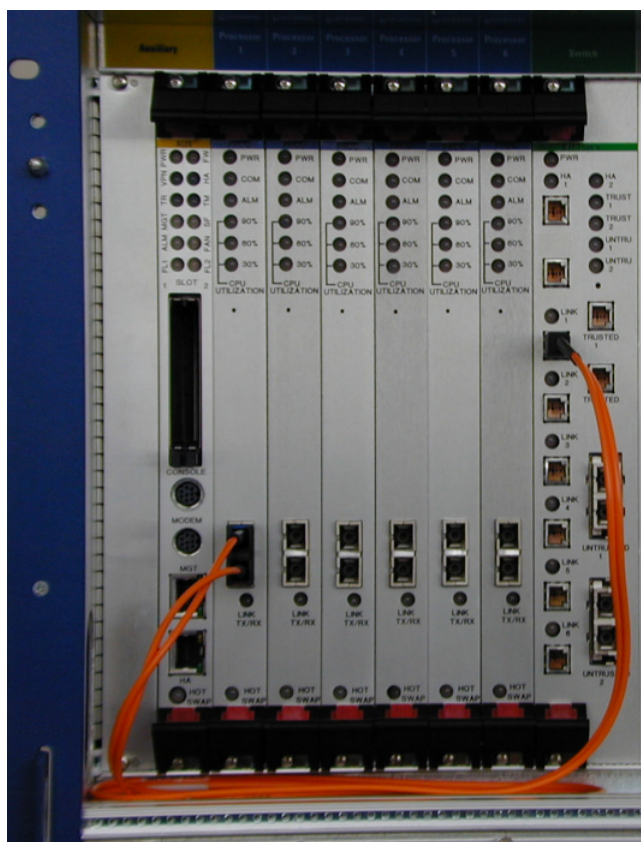

Figure 2-2 Cabling between Processor Module 1 and Port 1 on the Switch II Module
1. Connect processor module 1 to port 1 on the switch II module, as shown in Figure 2-2.